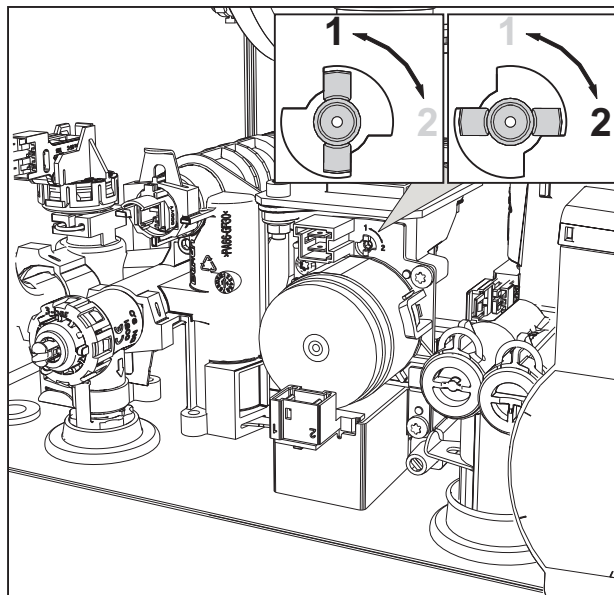

fig. 32
3. Turn the Throttle (fig. 32) according to the position indicated in table 7.